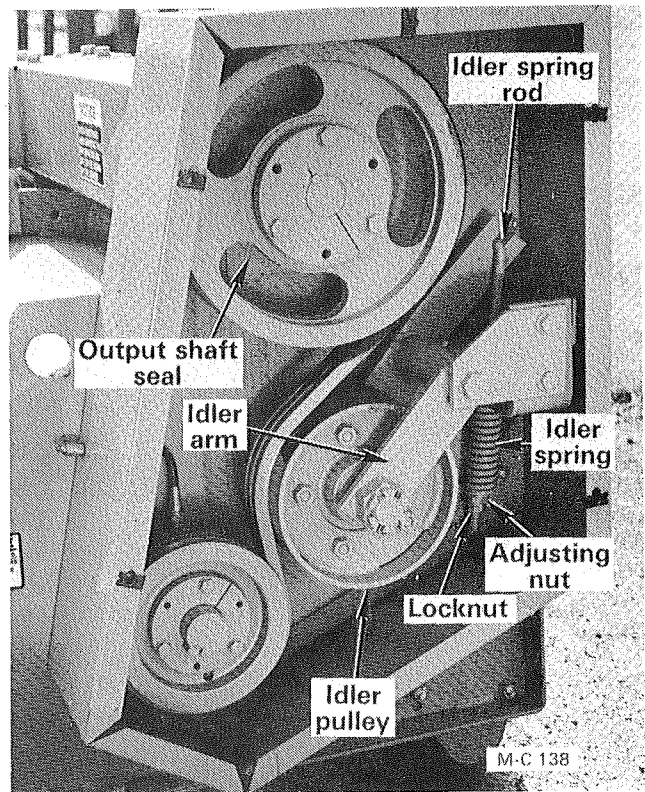

Figure 31
4. Remove the output shaft seal and the belt guard back plate, see Figure 31 and 32.
1. Remove the belt guard cover. Loosen the idler spring rod locknut and back off the idler spring adjustment nut to relieve all spring tension. Remove the idler spring rod and spring, see Figure 31.